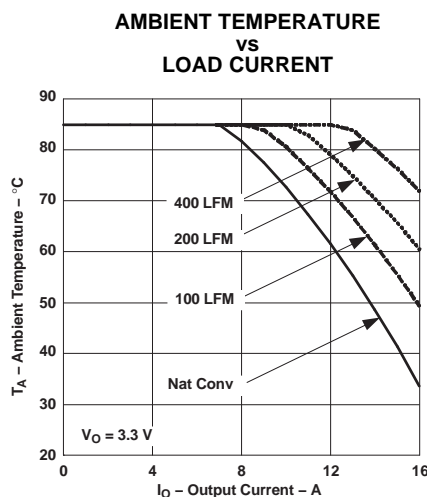

Figure 4.
- (2) The temperature derating curves represent the conditions at which internal components are at or below the manufacturer's maximum operating temperatures. Derating limits apply to modules soldered directly to a 100 mm x 100 mm double-sided PCB with 2 oz. copper. For surface mount packages (AS and AZ suffix), multiple vias must be utilized. Please refer to the mechanical specification for more information. Applies to Figure 4.